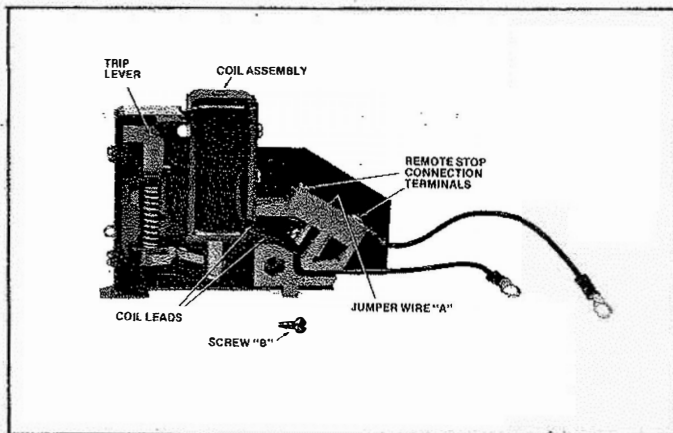

Figure 3. Low voltage protection (LVP) unit.
9. Make sure the coil leads of the LVP unit are placed in the wire trough (Figure 3).
10. Place LVP unit in original position and secure with screw "B". Before tightening starter cover screws, be sure that the trip lever (Figure 3) is under the lever extending from the starter body. The trip lever can be depressed with a small screwdriver. Make sure the toggle or pushbutton is in the original position. Align LVP cover with slot on starter cover and tighten starter cover screws. Reconnect coil leads to starter load terminals as shown on heater table diagram.